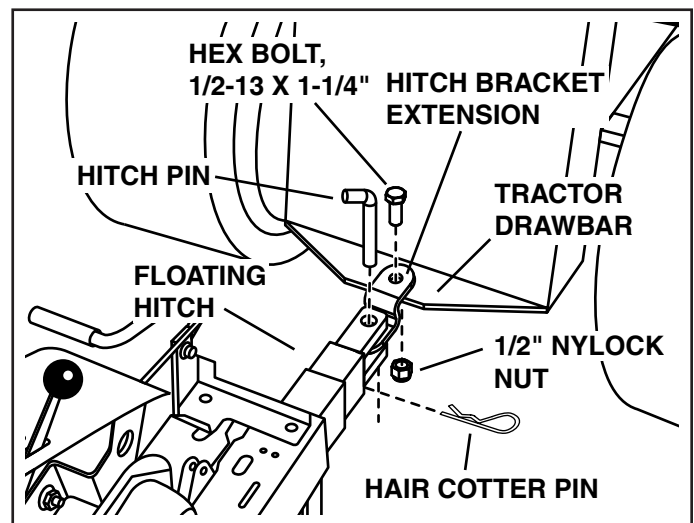

FIGURE 6
(See Figure 6)
**HITCH BRACKET EXTENSION CAN BE ATTACHED AS SHOWN IN FIGURE 6 OR TURNED UPSIDE DOWN FOR TRACTORS WITH SHORTER DRAWBARS.**